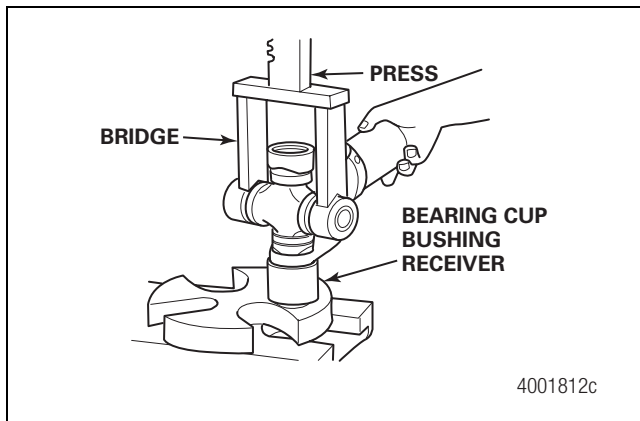
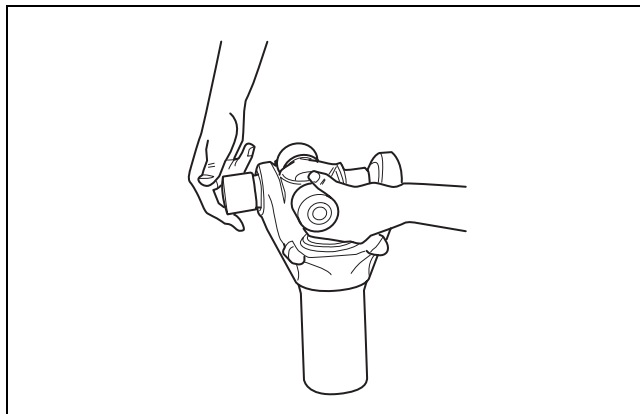

Figure 8.9
Figure 8.10
1. Place the universal joint in a suitable press bridge and bearing cup bushing receiver. Figure 8.9. Refer to the Service Notes page on the front inside cover of this manual for information to obtain these tools.
2. Press DOWN until the first round bushing loosens. Figure 8.9. Remove the round bushing. Figure 8.10.